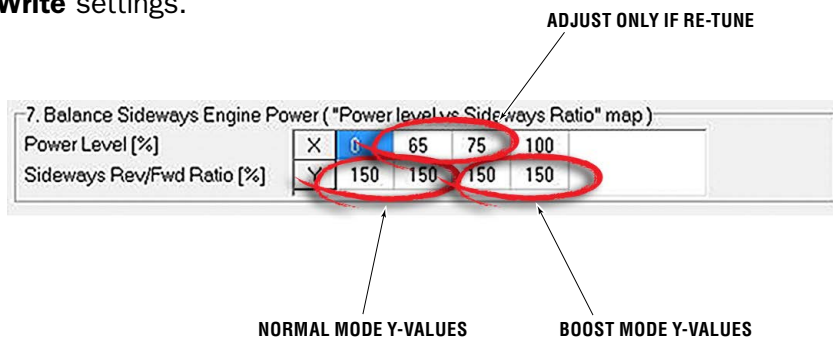

Figure B-13. Sideways REV/FWD Ratio Curve parameters.
If you adjusted the power levels in STEP 8 and are now performing a re-tune, adjust the X-values in the table as follows (see figure B-13):
- If the boat moves aft, decrease both *normal mode Y-values* (see figure B-13) by the same amount. If the boat moves forward, increase the values.